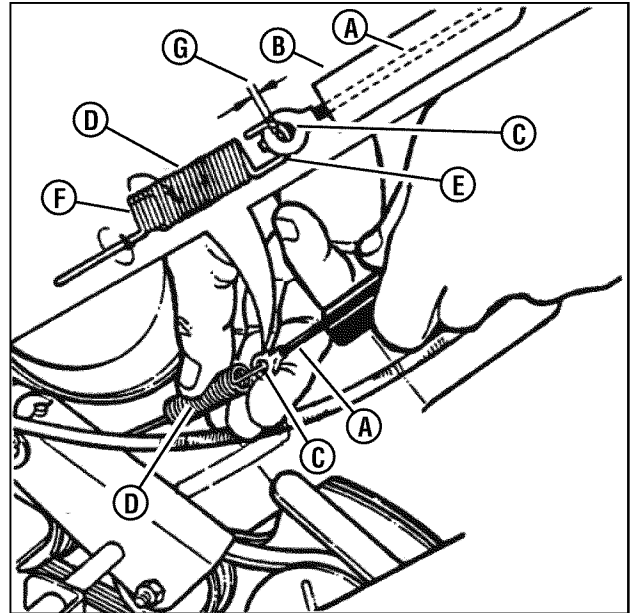

Figure 24: Wheel drive control adjustment
- The wheel drive control is properly adjusted when there is 1/16" to 1/8" clearance (**G, Figure 24**) between the inside of the spring hook (**E**) and the inside of the clutch cable eye (**C**) with the wheel drive control released.